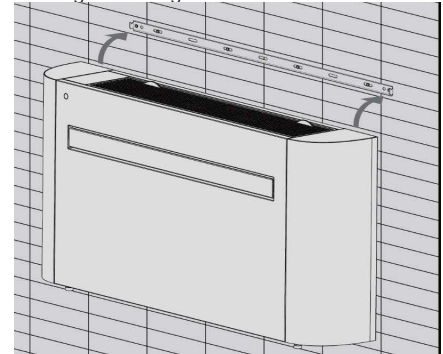

**Figure 10**
3. After applying, use the knife to cut the sealing strip at the joints between the left and right corner cover plates and the machine body (a total of 4 places) so the end plates can be opened later, as shown in the enlarged callout diagram. Figure 10.